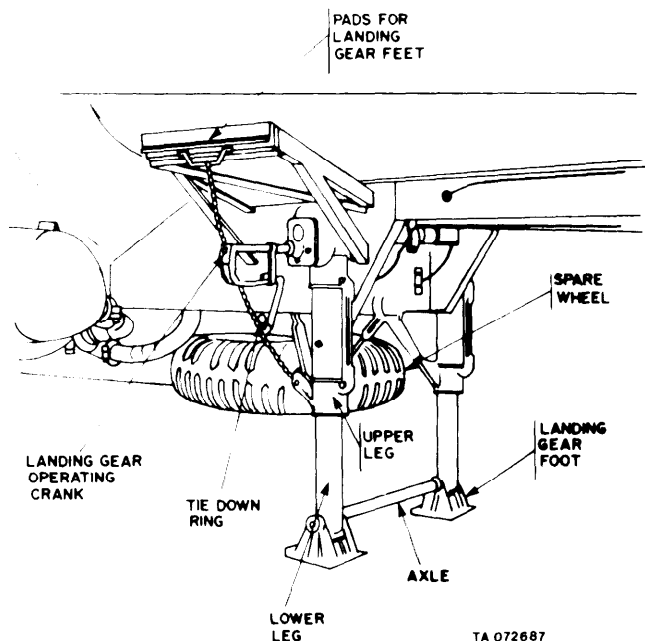

Figure 2-1. Landing gear.
a. The landing gear (fig 2-1) supports the front end of the semitrailer whenever it is not coupled to a towing vehicle. The landing gear is a two-speed type. The gear housing at the top of the right leg houses a two-speed transmission connected to the gear housing at the top of the left leg by a drive shaft. This permits synchronized raising and lowering of the telescopic portion of both legs through the bevel gear driven jack screws within the legs. The operating crank is hinged to the drive shaft on the right leg and when not in use is swung out of the way and held by a holding clip.
e. Release the landing gear crank (fig 2-1) from its holding clip and engage it on the crankshaft. Rotate the crank clockwise, raising the landing gear support legs to their maximum height. Disengage the crank and return it to its holding clip.
f. If the landing gear ground boards (fig 2-1) were used, return them to their stowage brackets.
c. Release the landing gear crank (fig 2-1) from its holding clip and engage it on the crankshaft. Rotate it counterclockwise to lower the landing gear legs until their foot pads rest solidly on the ground surface or